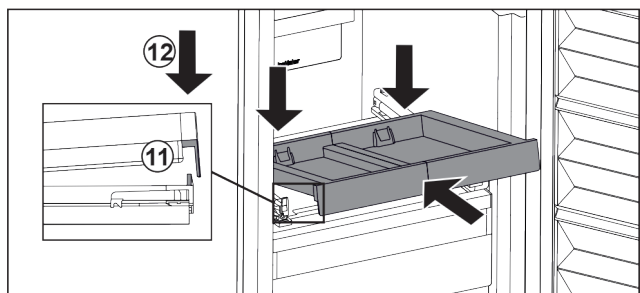

Fig. 30
- ▶ Slide in at an angle. Make sure that the stop is behind the lug on both sides. Fig. 30 (11)
- ▶ Lower the pull-out board at the front. Fig. 30 (12)